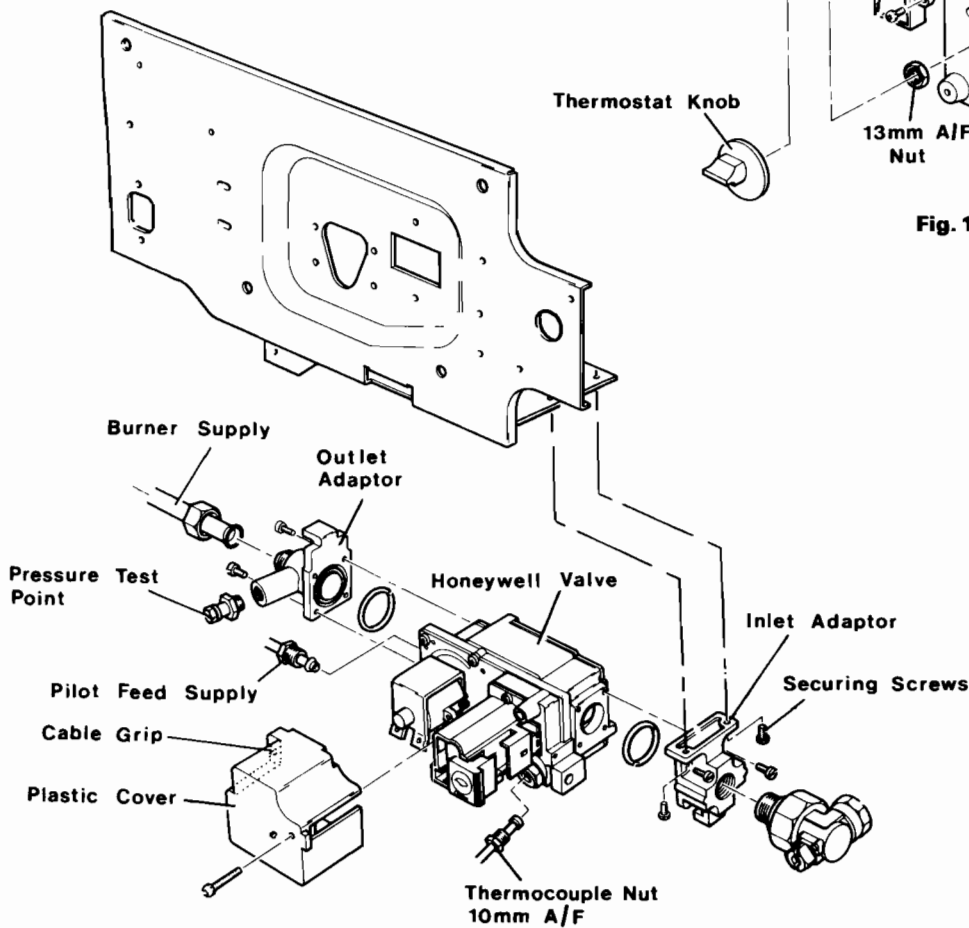

Fig. 19.
Honeywell Gas Valve (Fig. 19)
- (c) Release screw on plastic cover on gas valve. Remove cover disengaging the electrical cable from cable grip (Fig. 19).